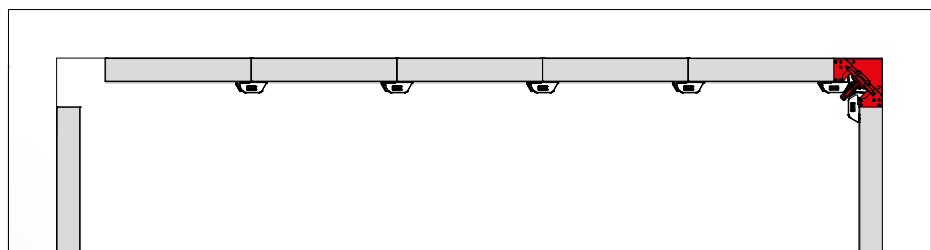

Fig. 53.3
3. Lift the ST stripping corners out of their position, then strip the panels (Fig. 53.3).